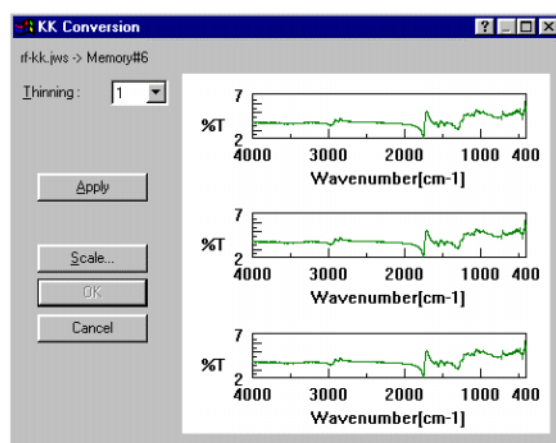

Fig 2.31 [KK Conversion] dialog box
**Note:** Figure 2.31 shows spectra before execution of KK conversion, therefore, all three spectra in the spectrum display area are the same. After execution, the top spectrum is the original spectrum, the middle spectrum is the KK-converted spectrum and the bottom spectrum is the refractive index spectrum obtained through calculation.